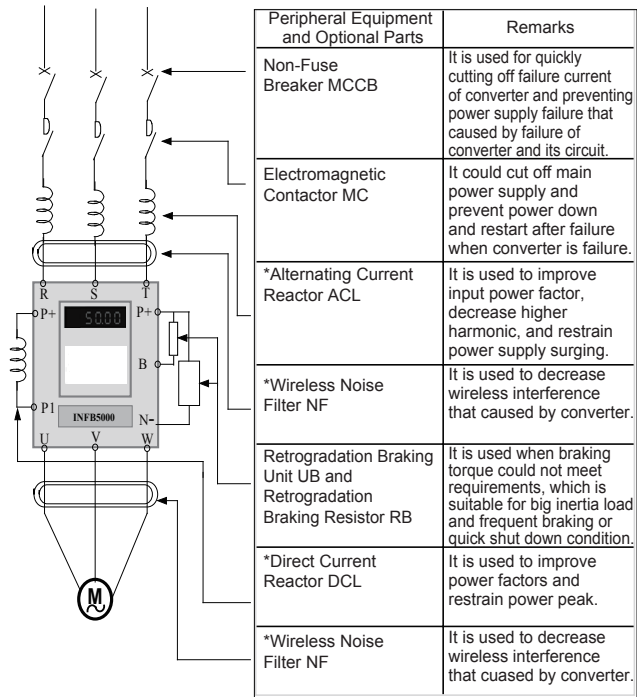

Figure 6-1 Connection Diagram of Peripheral Equipment and Optional Parts
With high requirements of preventing wireless interference and in occasion that needs to meet CE, UL, and CSA standards, or there is equipment without enough anti-interference ability around converter and other conditions, this filter should be used. Connecting wire should be shortened as possible when installed, and filter also needs to be installed closed to converter or inside of the machine (shown as figure 6-1)
- Earth leakage protective device should be installed on input side of converter, and it is more suitable to be installed behind MCCB (non-fuse breaker) (shown as figure 6-1).